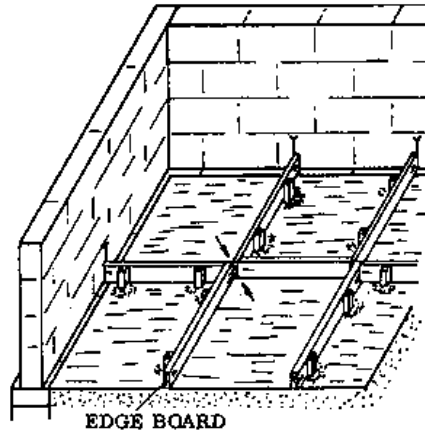
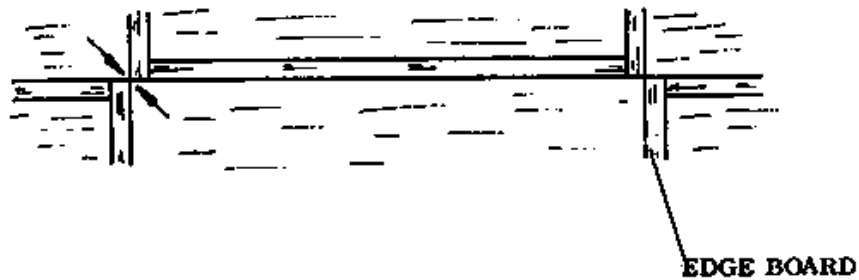

Fig. 4
Fig. 6
d. Cut the edgeboards to the proper length. Note the arrangement of the boards shown above in Fig. 4 and in Fig. 6 below, and cut the boards so that they fit in this pattern.
f. Place the edge boards as shown in Fig. 4, along the marks. The corners of the boards should meet as shown in Fig. 6 below.